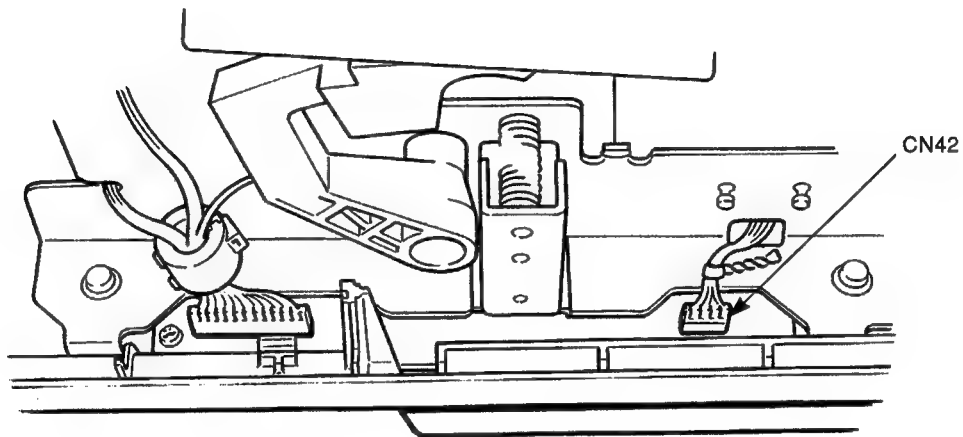

Figure 3-25 HP Sensor Connector
1. Disconnect CN42 from the connection board (see Figure 3-25).